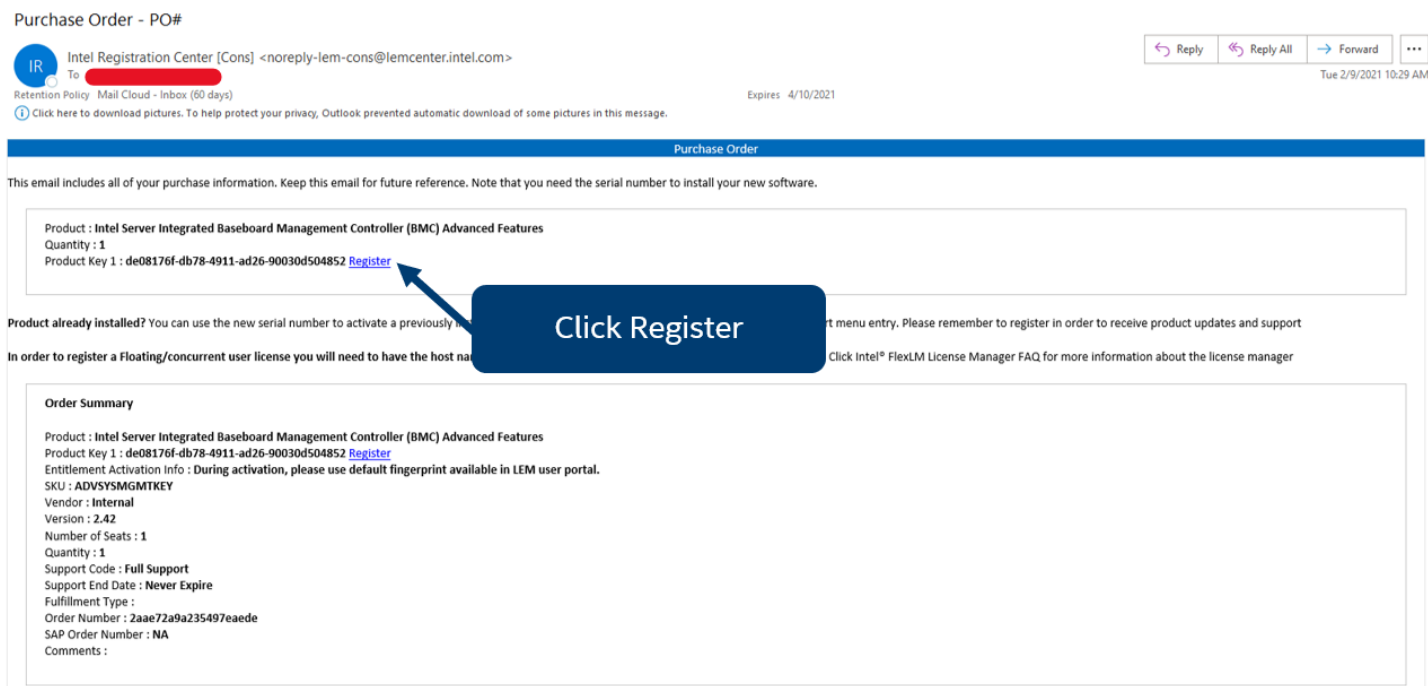

Figure 52. Example Email
3. From the email, Click the **Register** link (see Figure 52) to go to <https://servertools.intel.com/registration>